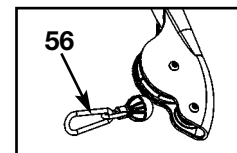

Figure 1
**1. Installing snap links** (refer to step 1A, 1B and Figure 1).
- C. Attach each snap link (#56) to cable on each cable arm. See Figure 1.